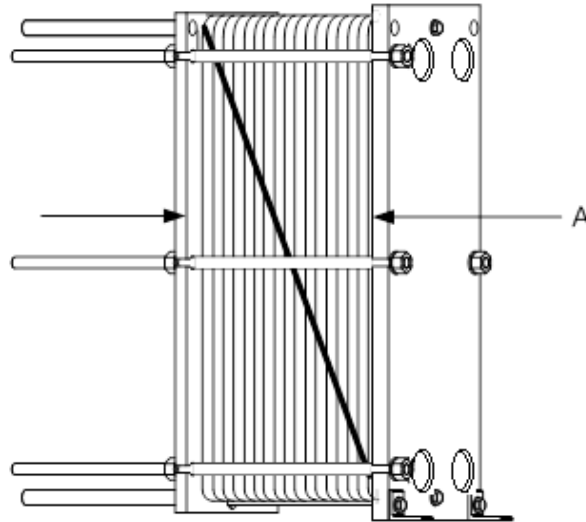

Figure 8-8. Measurement of Plate Pack Dimension "A" – Splash Guard Removed
7. Remove the protective splash guard to provide access to the plate pack assembly (see Figure 8-8, below).
8. Mark the plate pack assembly with a diagonal line as shown in Figure 8-8 or number the plates in sequence.
9. Measure and record the lateral dimension "A" between the frame plate and pressure plate as shown in Figure 8-8.
5. Slide the pressure plate forward and press the plates together (Figure 8-13). If the plate pack was previously marked on the outside (Figure 8-8), check to ensure that the plate arrangement agrees with the markings.